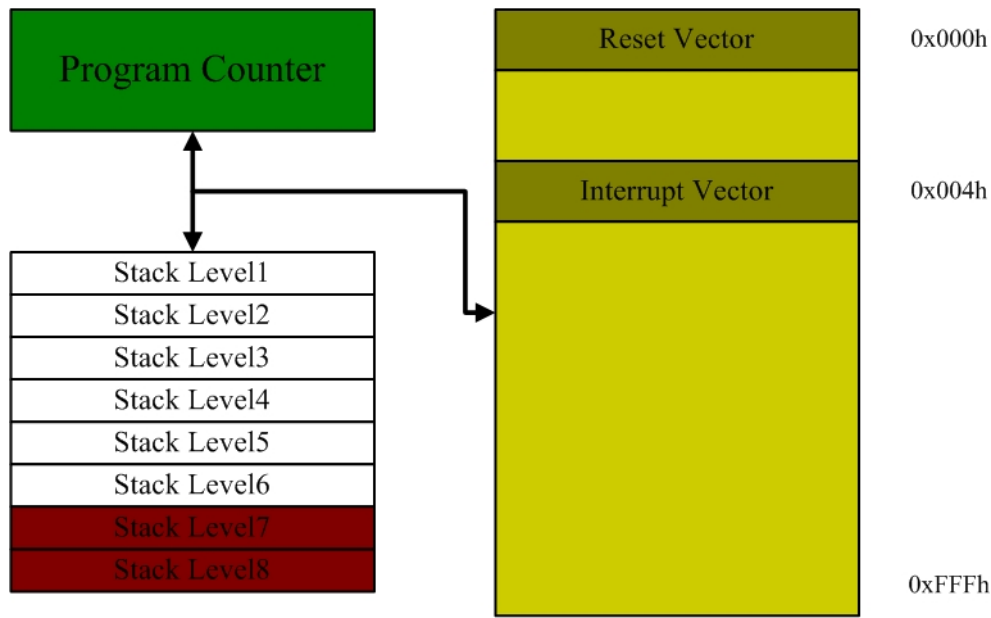

Figure 2-3 CSU1221 program memory structure
1. CSU1221 has a 12bits Program Counter which is capable of addressing a $4k \times 16$ bits program memory space. The Start up/Reset Vector is at 0x000. When CSU1221 is started or its program is reset, the Program Counter will point to Reset Vector. The Interrupt Vector is at 0x004. No matter what ISR is processed, the Program Counter will point to Interrupt Vector. Please see Figure 2-3.